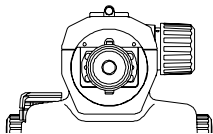

Fig.5.7
- 3) Unscrew and remove the adjusting screw cap (11) ( Fig.5.7 ).